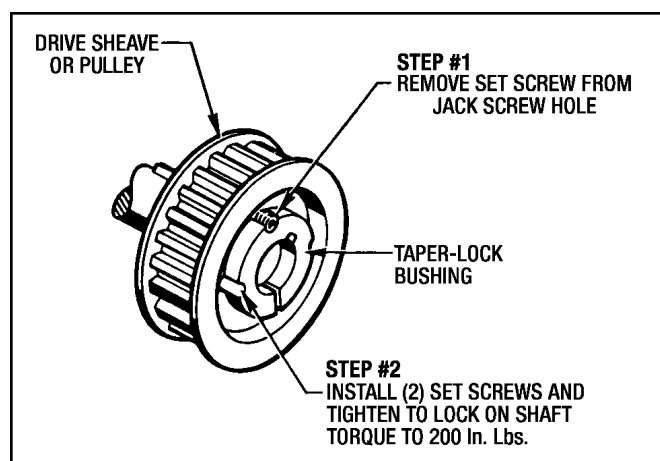

Figure 9.12 - Installing Sheave or Pulley
2. Assemble the Taper-Lock Bushing and the Drive Sheave or Pulley with the (2) Set Screws placed in the locking holes.
3. Place assembled Sheave or Pulley onto the Male Input Shaft as close as possible to the unit to minimize overhang shaft deflection. Tighten the (2) Set Screws to lock it on the shaft. *(See Figure 9.12)*